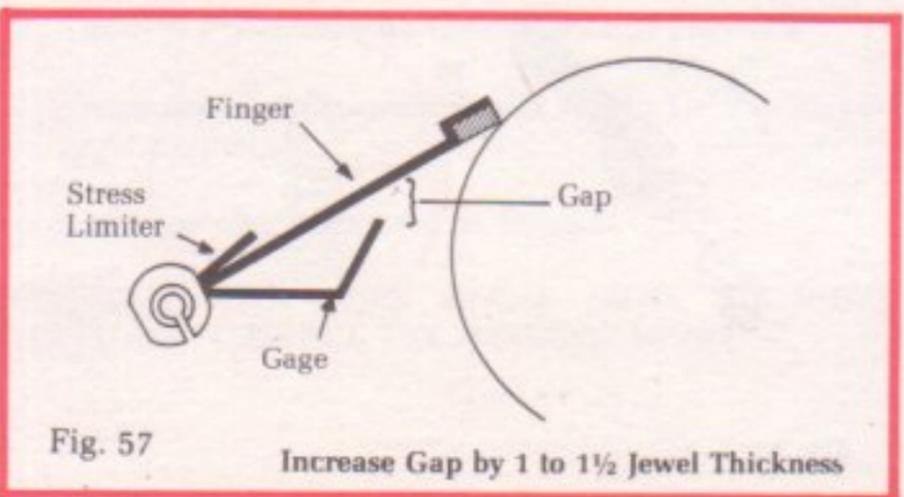

Fig. 57. Increase Gap by 1 to 1 1/2 Jewel Thickness
4. Use the collet adjusting tool to rotate index collet; bring the index jewel into the wheel until the gage gap is larger than it was in Step 3 by 1 to 1 1/2 index jewel thicknesses (Fig. 57). The amount of tension provided by rotating the collet is critical. Do **NOT** proceed until the gage of the index finger is set to within tolerance: **one to one and a half index jewel thicknesses plus original gap**.